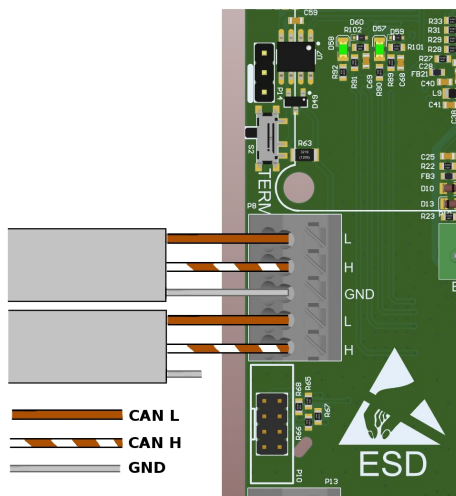

Fig. 31: Diagram of Enelion Chain communication cables connection (variant B)
4. Use termination for devices at the beginning and end of the network. In case of variant A place terminating jumper on the marked headers [Fig 31]. In case of variant B termination is done by slide the switch down, to show white square. In alternate version, if there is no switch, place a jumper on two pins in the header inside the charger marked by white line [Fig. 32].